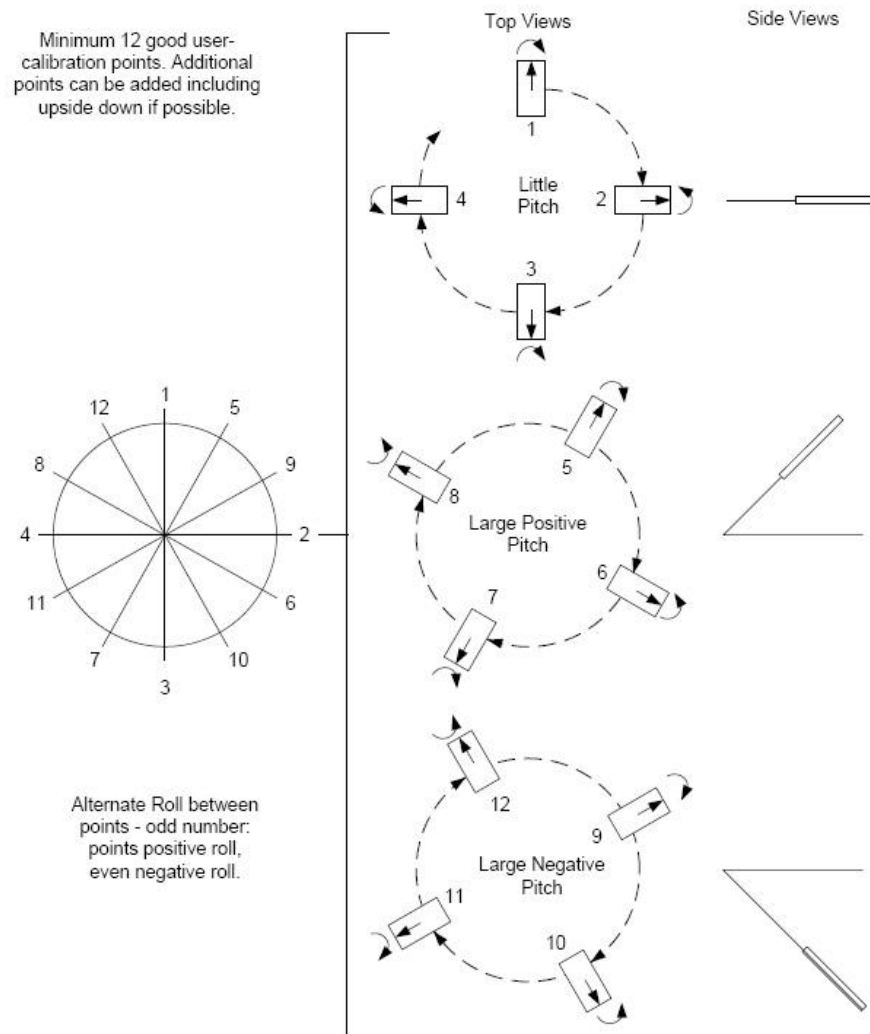

Figure 5-1: 12 Point Full Range Calibration
The recommended 12 point calibration pattern is a series of 3 circles of evenly spaced points, as illustrated in Figure 5-1 and listed in Table 5-2. The pitch used in the second and third circles of the calibration should at least match the maximum and minimum pitch the device is expected to encounter in use.
**Note:** While Figure 5-1 shows the location of the device changing, this is for illustration purposes and it is best for the location of the device to remain constant while only the orientation is changed.